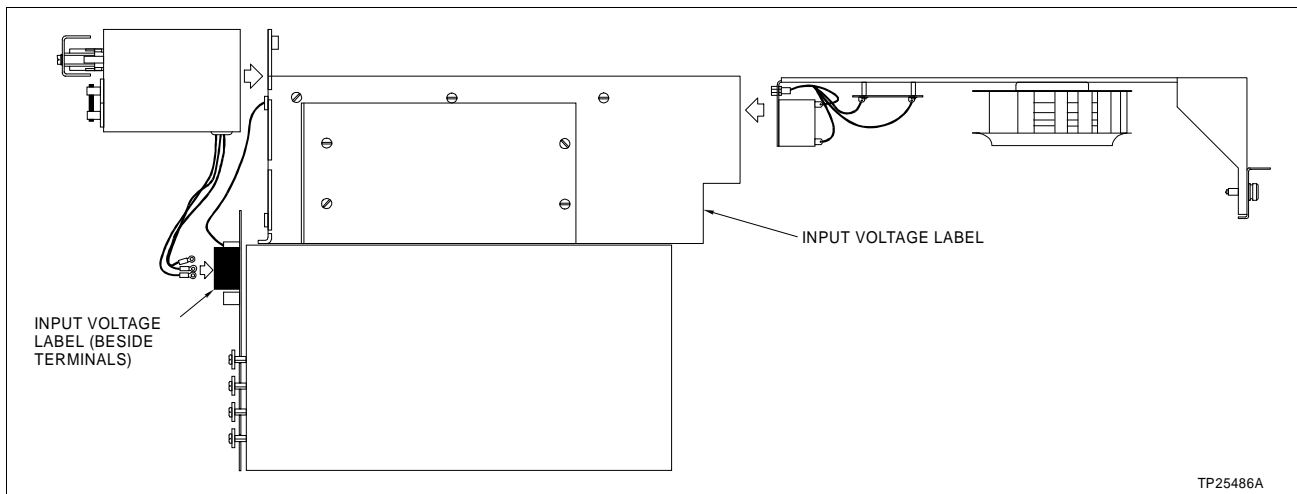
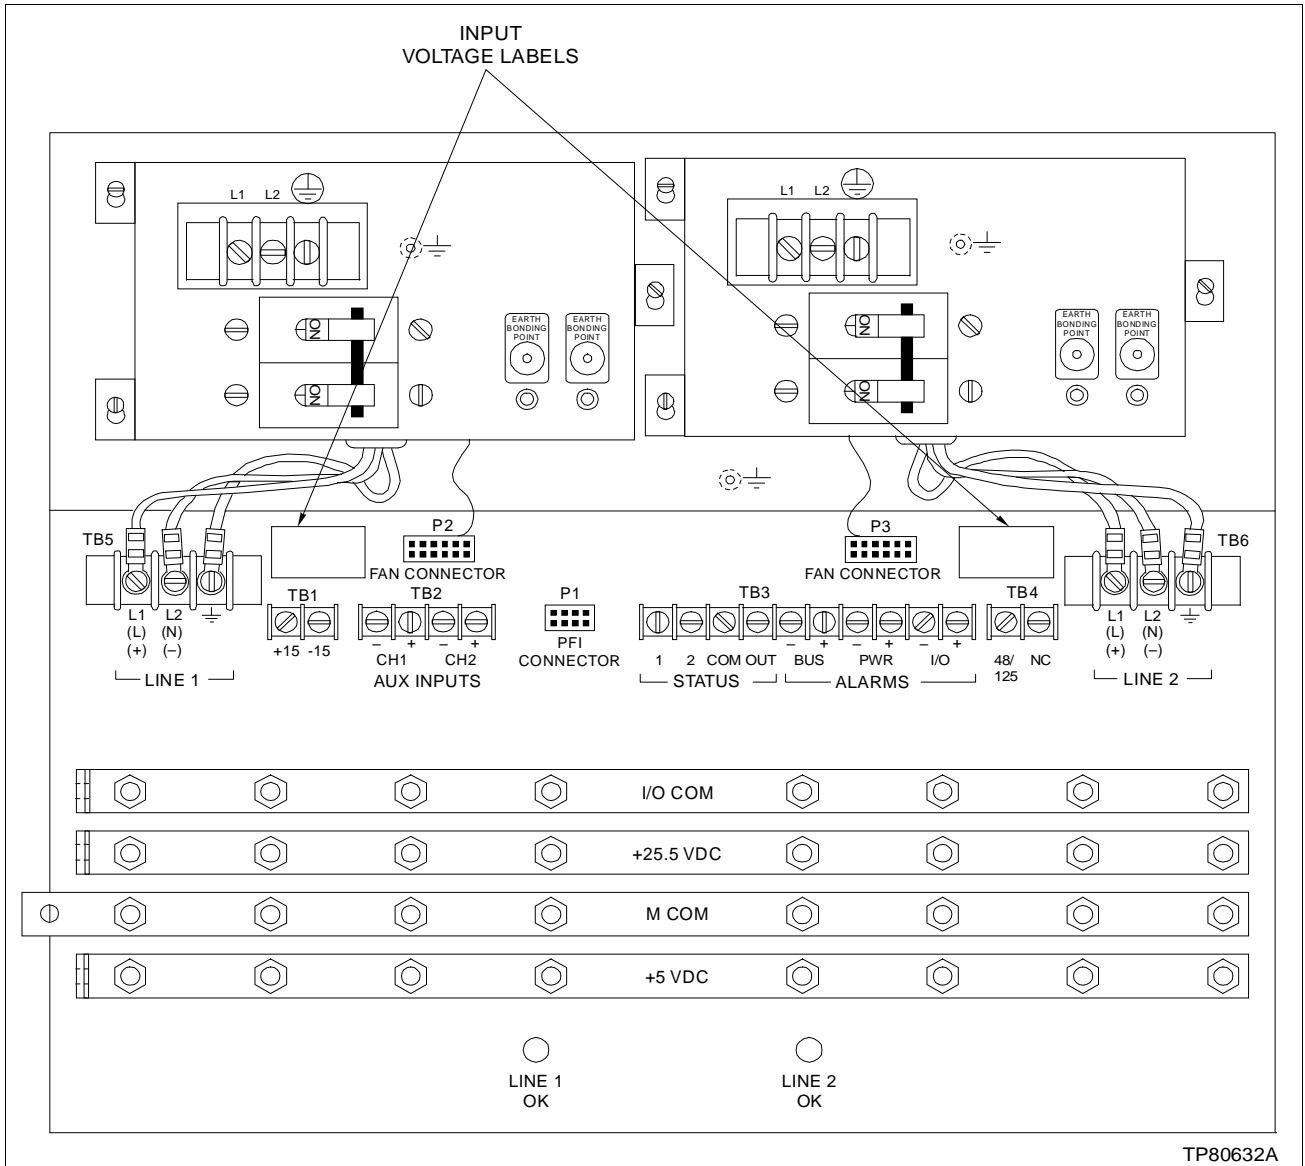

Figure 3-3. Power Entry Circuit Breaker or Switch and Fan Assembly Installation (Side View)
Figure 3-4. Power Entry Circuit Breaker or Switch Installation (Rear View)
NOTE: Each fan assembly nomenclature includes a unique power cable. Table 3-1 lists the cable required per fan assembly nomenclature and input voltage. Two labels showing the required voltage are included with each cable. Place one label on the front of the fan chassis and one label beside the input power terminal strip (TB5 or TB6) for that fan assembly (Figs. 3-3 through 3-6).
4. Place one of the labels (included with the fan cable) indicating the operating voltage on the front of the fan chassis (Figs. 3-3, 3-5 and 3-6). Place the other label beside the terminal strip that connects input power from the main service for that fan assembly (Fig. 3-4).
5. Engage the rails at the top of the fan assembly with the rails at the top of the fan chassis and insert the fan assembly into the fan chassis (Fig. 3-3).
Mount the appropriate power entry circuit breaker or switch to the back of the fan chassis (Fig. 3-3). Mount one power entry circuit breaker or switch for N, N+1 or N+x redundancy. For 2N redundancy, mount two power entry units. The three lead wires that connect filtered input power to the power module chassis backplane should hang down from the power entry circuit breaker or switch.
NOTE: The power entry circuit breaker or switch mounts over the fan power and status cable (Figs. 3-3 and 3-4). The lower side of the power entry circuit breaker or switch has been designed to protect the cable insulation. Make sure the fan cable is routed from connector to connector via the lower side of the power entry circuit breaker or switch.